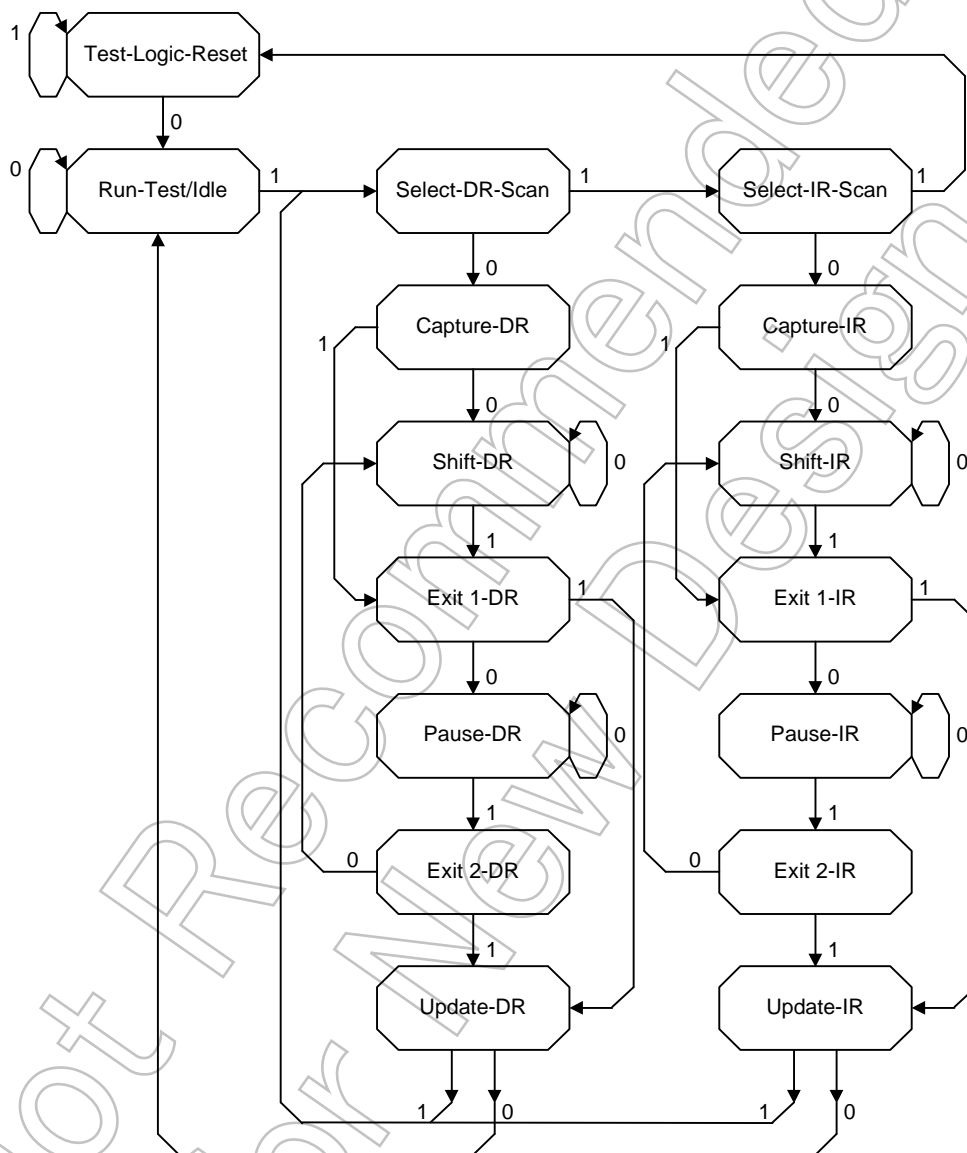

Fig. 20.7 State Transition Diagram of the TAP Controller
Fig. 20.7 shows the state transitions of the TAP controller. The state of the TAP controller changes depending on which value TMS will select on the rising edge of TCK, 0 or 1. In this figure, the arrow shows a state transition and the value that TMS selects to execute each state transition is shown alongside of the arrow.
The TAP controller operates in each state described below. In Fig. 20.7, a column to the left is the data column and a column to the right is the instruction column. The data column represents the data register (DR), and the instruction column represents the instruction register (IR).